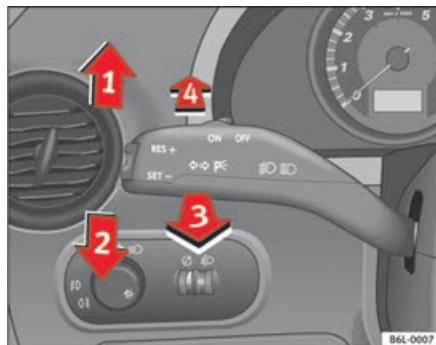

Fig. 61 Turn signal and main beam headlight lever
- Press the lever forward \Rightarrow page 93, fig. 61 ④ to switch on the main beams.